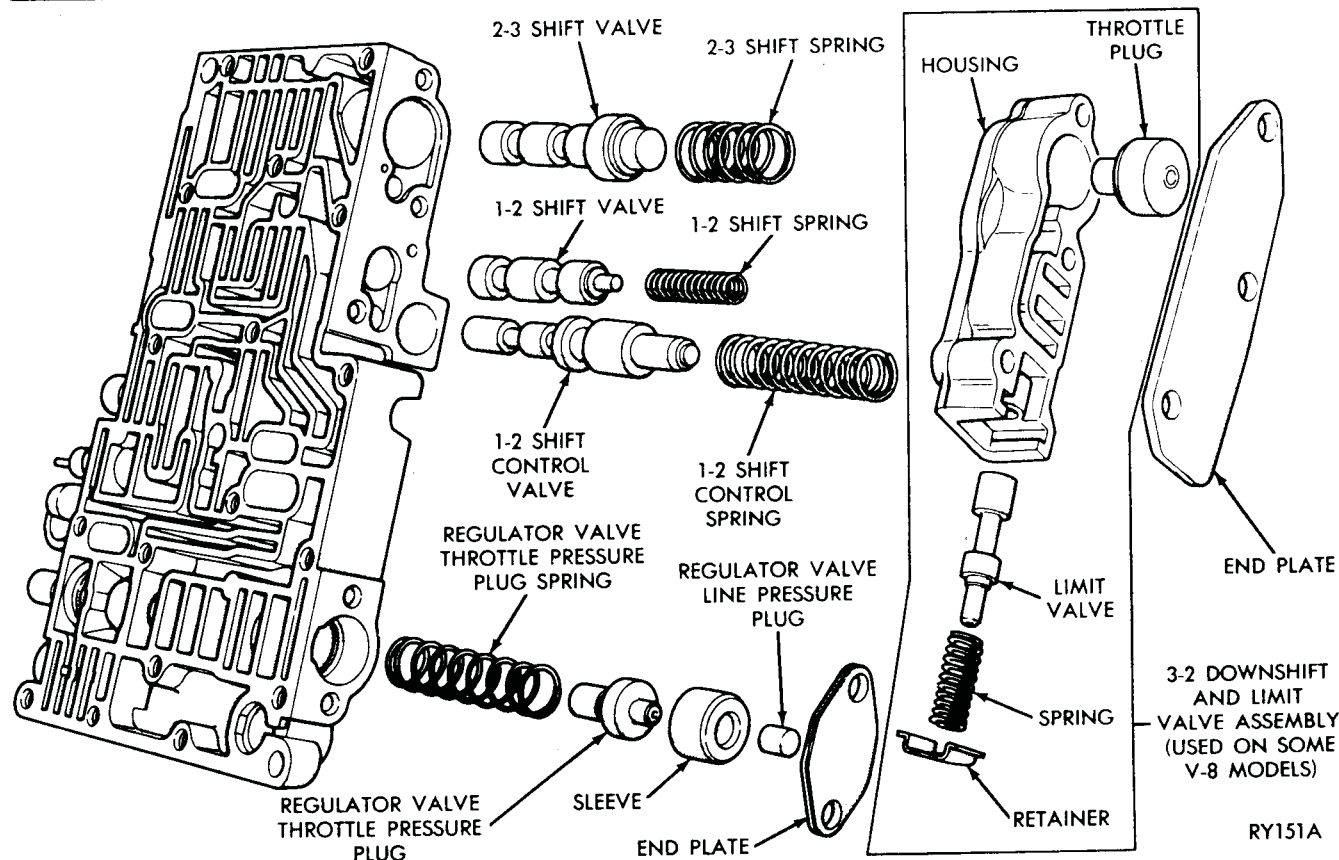

Fig. 7—Shift Valves and Pressure Regulator Valve Plugs
(1) Remove the line pressure regulator valve end plate (Fig. 7) and slide out the regulator valve sleeve, line pressure plug, throttle pressure plug, and spring.
(2) Remove the end plate and limit valve housing assembly.
(3) Remove throttle plug from housing.
Shift Valves and Regulator Valve Pressure Sensing Plugs (Fig. 7)